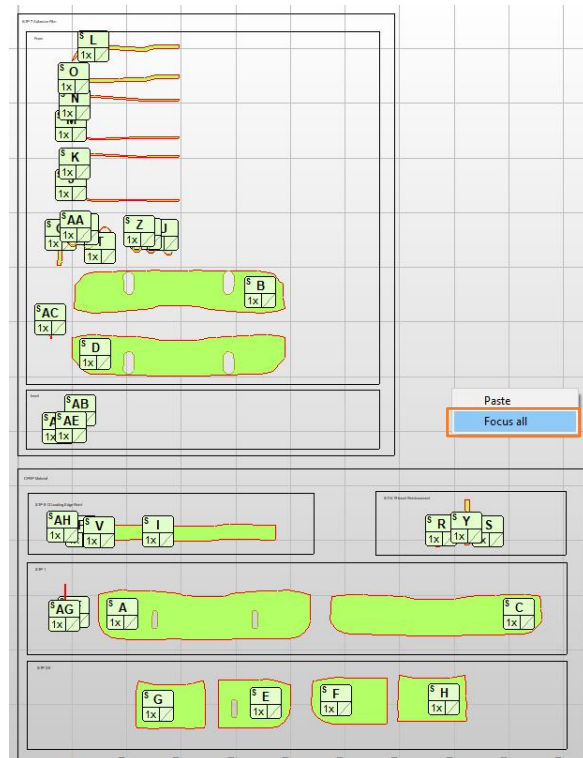

Figure 256
48. To change the IDs of all our MasterCuts at the same time select all of them with **[CTRL] + [A]**, or right click on Drawing Area and click on **[Focus all]** (Figure 256).